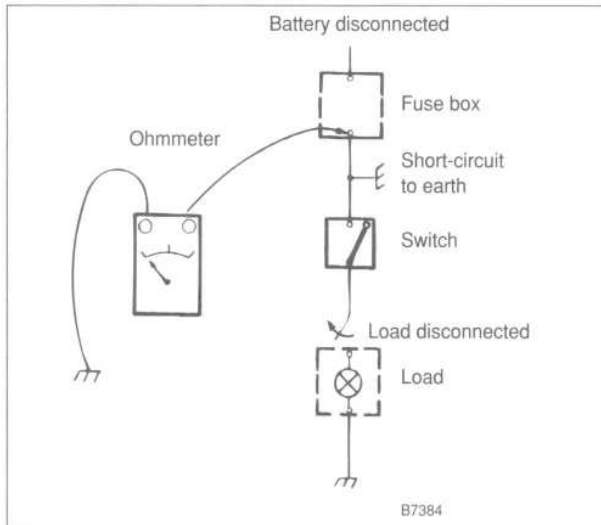

Fig. 4. Ohmmeter being used to find short circuit.
- Using an ohmmeter, connect one test lead to the load side of the fuse terminal (terminal leading to the circuit) and the other test lead to ground. See Fig. 4.